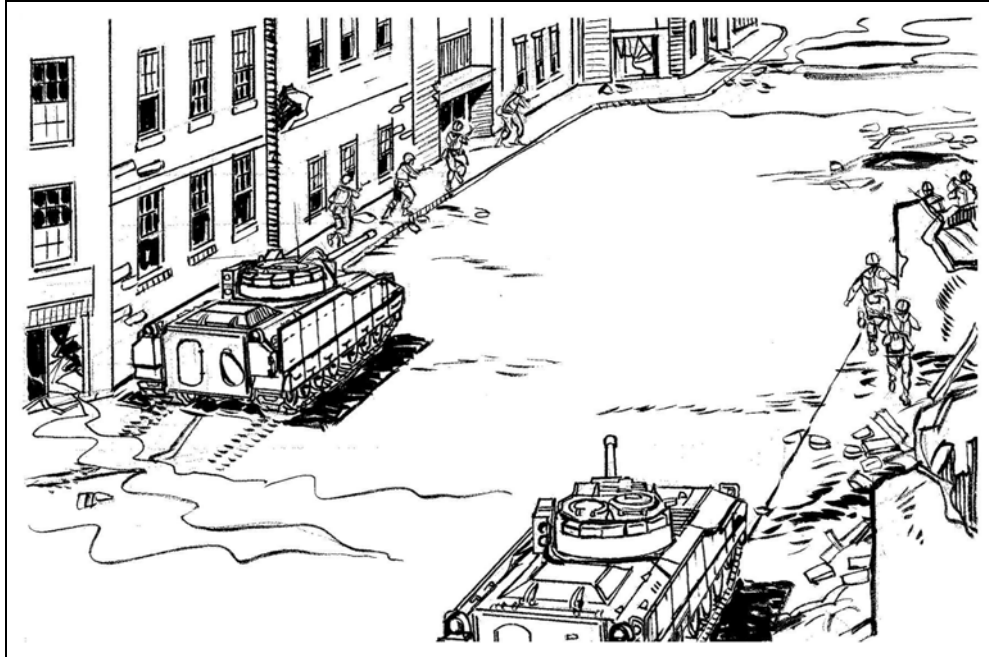

Figure E-4. Movement with dismounted element.
f. **Direct-Fire Support.** Ideally, BFVs provide direct-fire support to Infantry. The BFVs move behind the Infantry, when required, and engage targets located by the rifle squads (Figure E-4). The BFV's dash speed (acceleration) enables it to rapidly cross streets, open areas, or alleys.